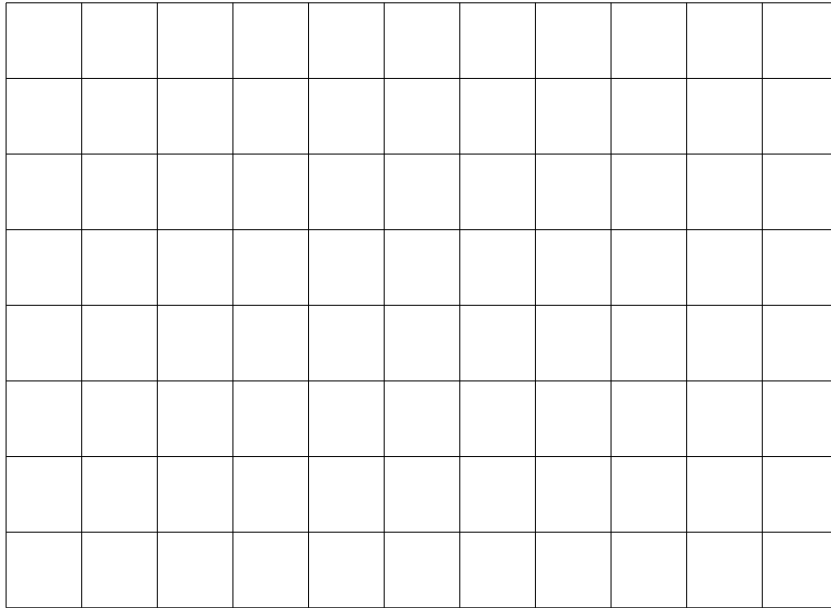

**Figure 12:** Setting attributes for V2.
2.4.2.3 Double click on V2 to open the attributes. Set the values for the attributes *DC* and *AC* to 0. Set the remaining attributes as shown in Fig 12.